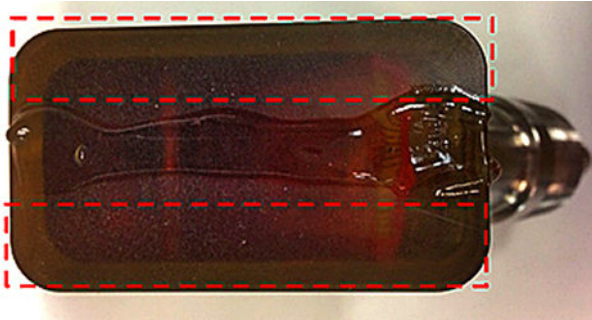

Figure 20: Transducer face with couplant
5. Apply the supplied couplant to both transducer faces (see *Figure 20* below). The couplant displaces any air gaps between the transducer and the pipe to ensure a uniform acoustic signal path. For pipes up to 14" OD, do not apply couplant in the red areas shown; for pipes >14" OD, cover the entire surface with couplant.